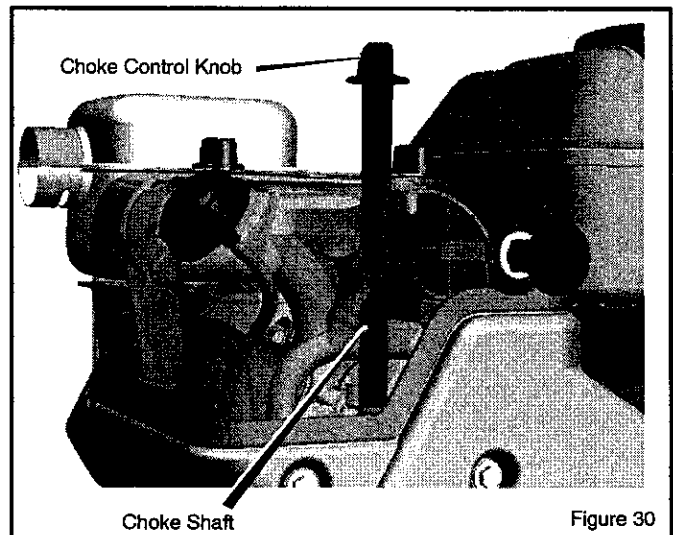
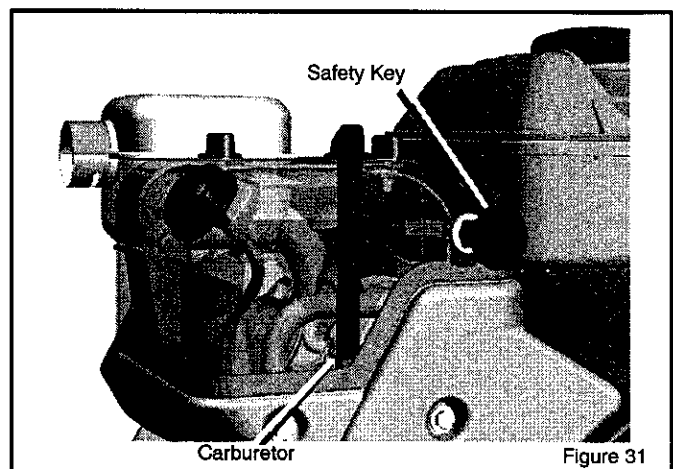

Figure 30
Figure 31
8. Connect the choke control knob with the choke shaft on the carburetor (see Figure 30 and Figure 31). Make sure the choke control knob is properly installed. If the choke control knob is not installed correctly, the choke will not operate.